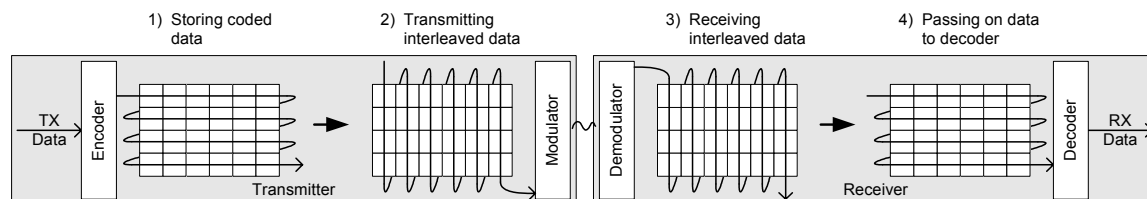

Figure 12: General principle of matrix interleaving
**CC2550** employs matrix interleaving, which is illustrated in Figure 12. The on-chip interleaving and de-interleaving buffers are 4 x 4 matrices. In the transmitter, the data bits are written into the rows of the matrix, whereas the bit sequence to be transmitted is read from the columns of the matrix and fed to the rate 1/2 convolutional coder. Conversely, in a **CC2500** receiver, the received symbols are written into the columns of the matrix, whereas the data passed onto the convolutional decoder is read from the rows of the matrix.